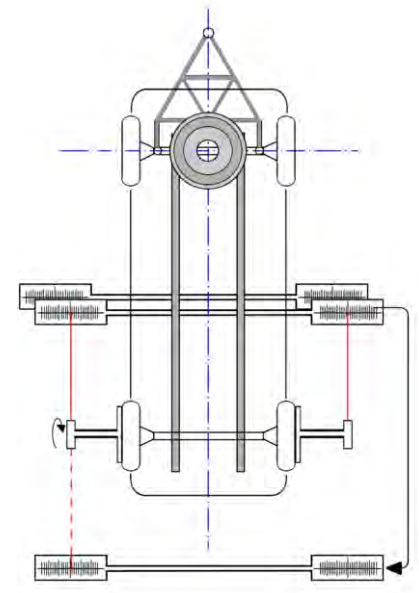

Fig. 22
- Now place a scale on the other marking of the axle being measured (Fig. 22)